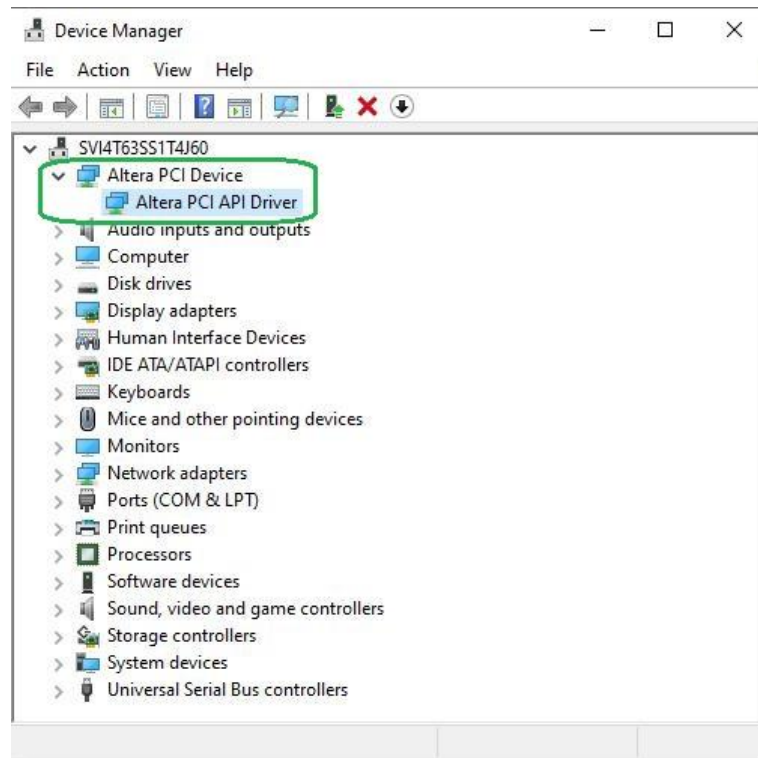

Figure 6-10 Screenshot for PCIe Driver
4. Make sure the Windows has detected the FPGA Board by checking the Windows Control panel as shown in **Figure 6-10**.